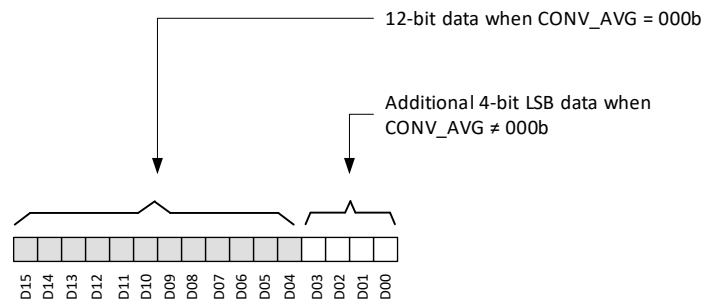

Figure 7-5. Magnetic Sensor Data Definition
The X, Y, and Z magnetic sensor data are stored in the X_CH_RESULT, Y_CH_RESULT, and Z_CH_RESULT registers, respectively. The 12-bit ADC output is stored in 16-bit result registers in 2's complement format as shown in Figure 7-5. With fastest conversion (CONV_AVG = 000b), the ADC output loads the 12 MSB bits of the 16-bit output register along with 4 LSB bits as zeros. With CONV_AVG ≠ 000b, all the 16 bits are used to store the results. With DATA_TYPE = 00b, the 16-bit magnetic sensor data can be accessed through regular 32-bit SPI read. Use Equation 1 to calculate the measured magnetic field.
- D_i is the data bit as shown in Figure 7-5.